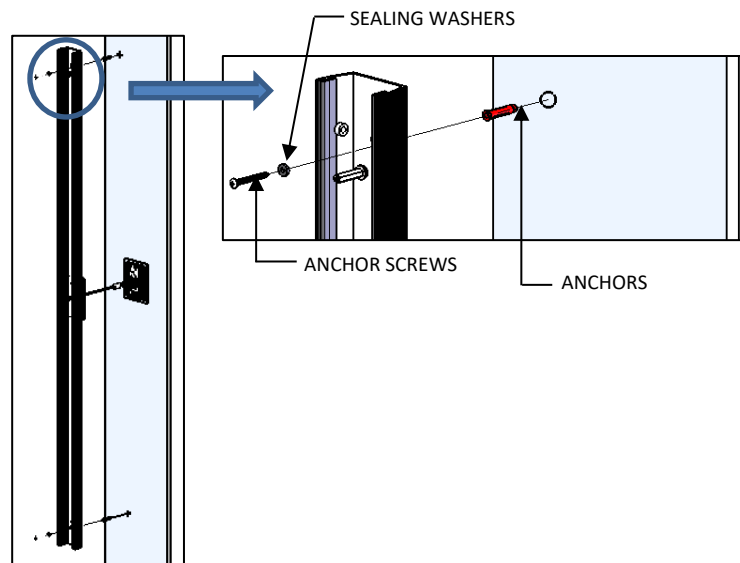

FIG.13 – BACK-CHANNEL ASSEMBLY TO J-BOX
7. Mark ANCHOR HOLE locations on wall using BACK-CHANNEL. Drill 3/16" dia. holes and insert provided ANCHORS as shown in FIG. 13.